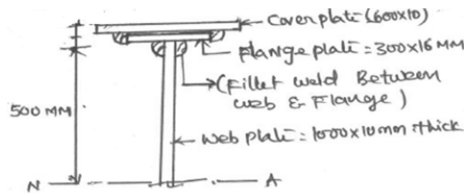

Figure 1
- Design a suitable fillet weld to connect web plate to flange plate and flange plate to cover plate of compression flange in plate girder shown in Figure 1. The size of web plate is 1000x10mm thick and flange 300x16mm and cover plate 600x10mm. The maximum factored shear applied is 800kN. Use shop made fillet weld (Use steel strength f_u 410MPa and f_y 250MPa). [7M]